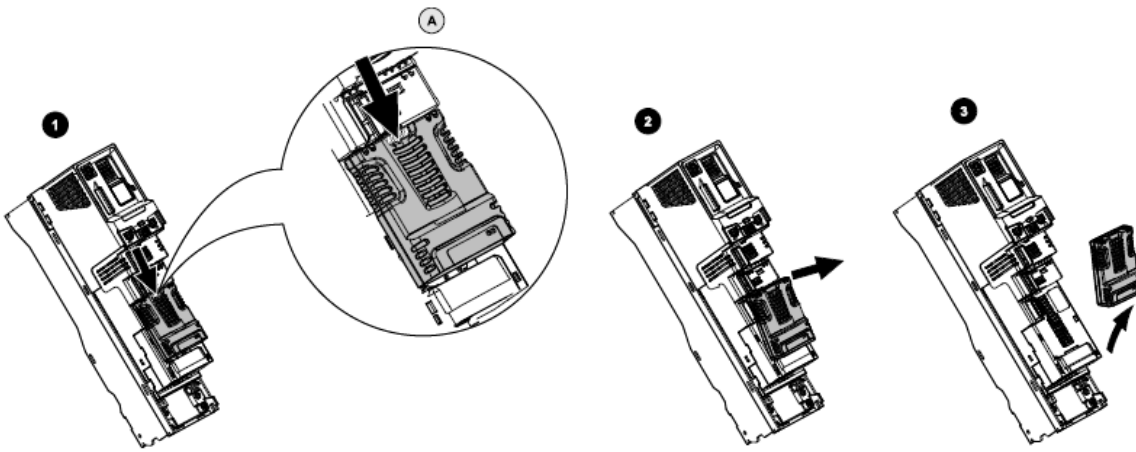
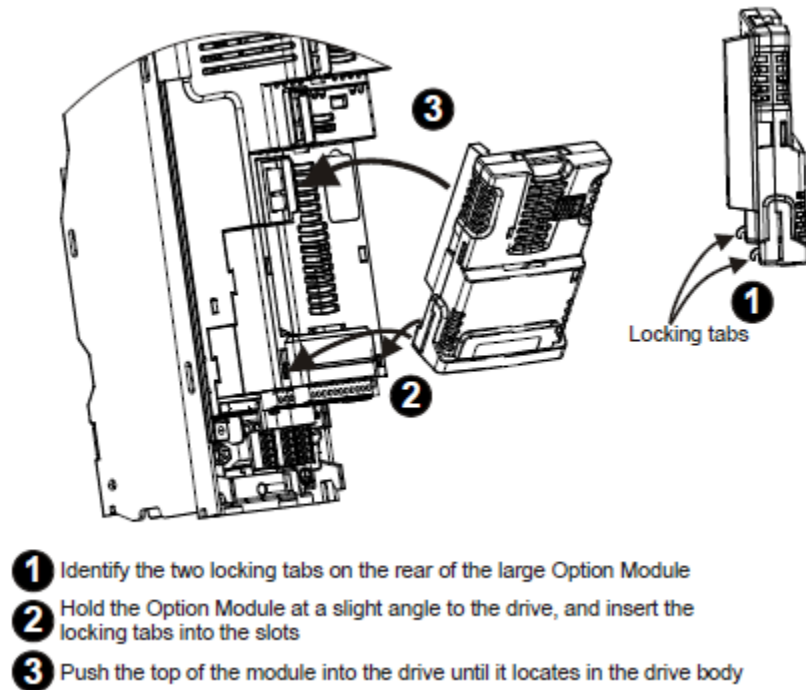

Figure 3
Figure 4
- Press down on the tab Figure 3 (1) to release the option module from the drive housing, the tab is highlighted in the detailed view Figure 3 (A).
- Tilt the option module towards you as shown Figure 3 (2).
- Totally remove the option module in direction shown Figure 3 (3).
For the purposes of the Application Note it will be assumed that pre-programmed SI-APPS-PLUS or MCI210 modules are available for replacement purposes. Remove power to the M700 drive. For the MCI210 follow removal and installation instructions in Figure 3 and Figure 4. Remove the SI-APPS-PLUS module according to the instructions in Figure 3 and replace it with a pre-programmed module in Slot 3 shown in Figure 4. Due to the physical size of SI-APPS-PLUS this SI Module is a large option module and must be used only in Slot 3. Once the module has been replaced and any cabling restored the M700 is now ready for use.